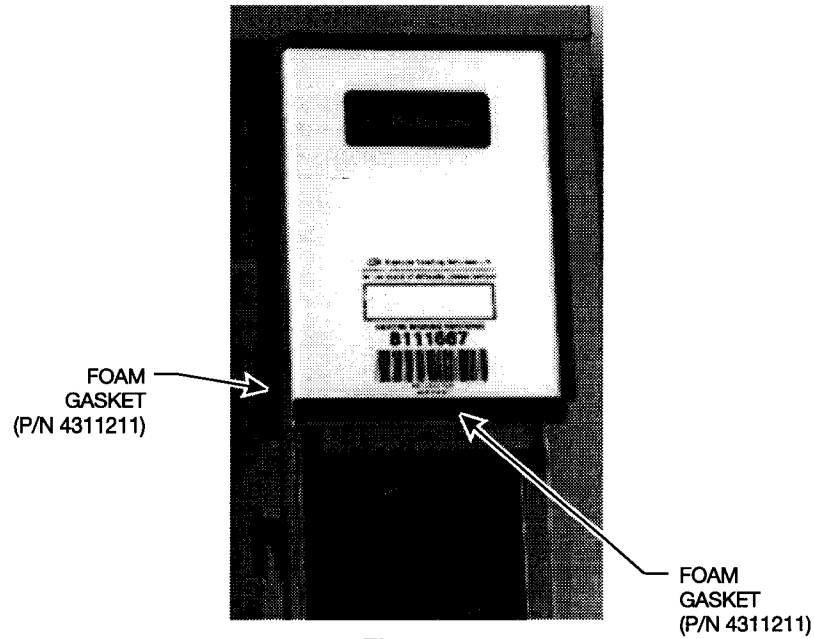
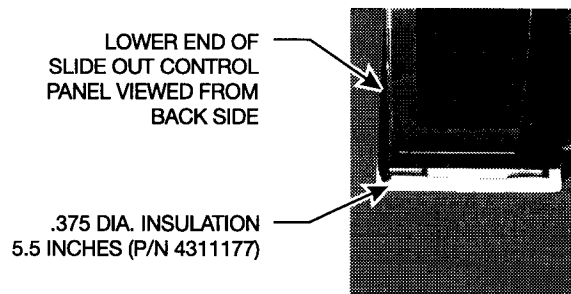

Figure 6
Figure 8
- c. **LATCH SIDE**-Start below the new top seal and apply 64.5 inches of foam gasket covering the existing gasket down and around the bottom corner. There will be a break at the top and bottom of the slide-out control panel. **See Figures 6 and 7.**
10. Apply 5.5 inches of .125 x .50 foam gasket (4311211) on the cabinet behind the top edge of the slide-out control panel. **See Figure 6.** With silicone, secure 5.5 inches of .375 diameter insulation (4311177) to the gap on the back side of the bottom edge of the control panel. **See Figure 8.**